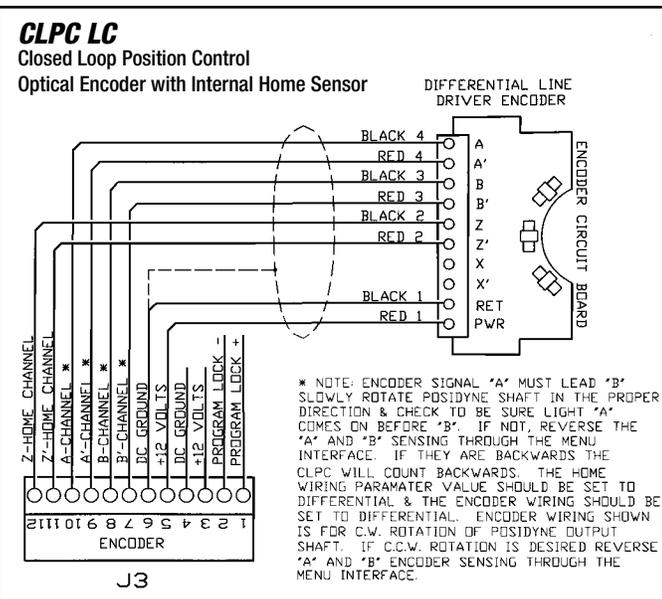

Figure 3.12 - Wiring Diagram - Terminal Block #J3 (With Internal Home Sensor)
A. CLPC LC Control to Optical Encoder with Internal Home Sensor (See Figure 3.12)